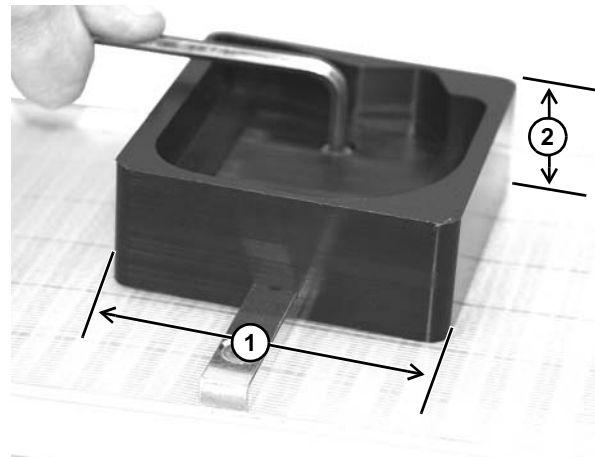

Figure 2
- Maximum width of Pallet = 3" (Figure 2, item 1)
- Maximum height of Pallet = 3" (Figure 2, item 2)